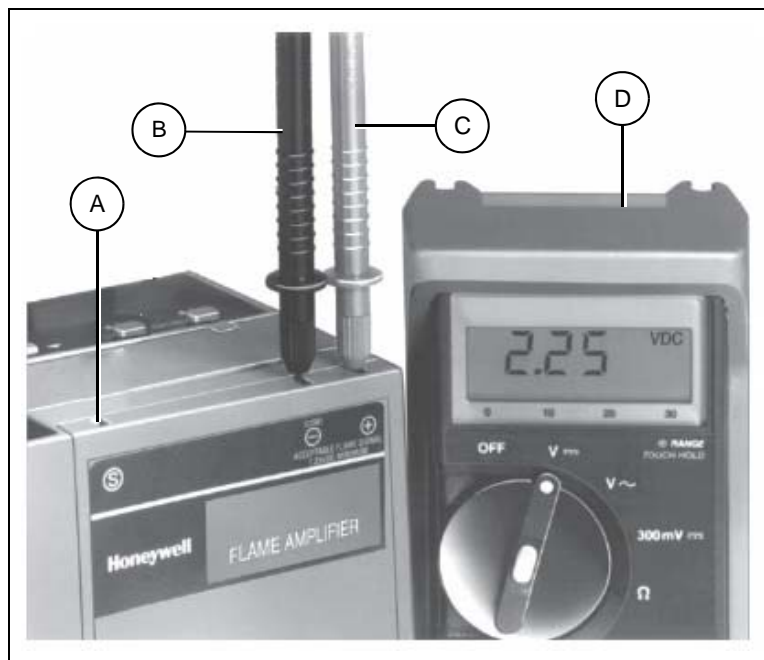

Figure 4C Honeywell Test Flame
- b. Flame signal can be checked at the Honeywell burner control, located in the main power panel, as shown in Figure 4C on Page 32.